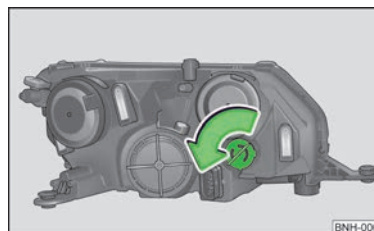

Fig. 129
- > Turn the socket with the bulb » Fig. 129 anti-clockwise up to the stop and remove.